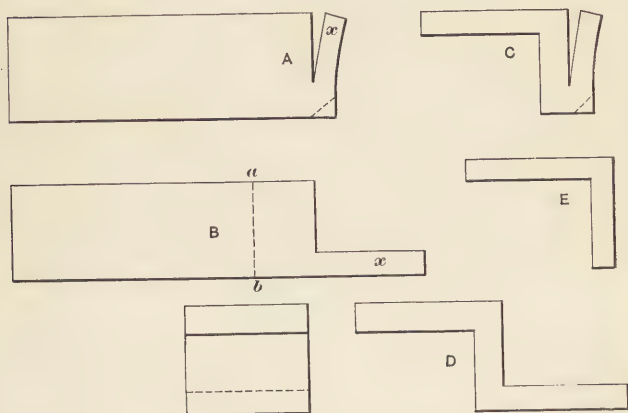

Fig. 44. Making a Double Angle.
**Making a Double Angle.**—Another troublesome job is to make a double angle from any flat stock over one half inch thick. To do this, take a square bar of the required size and cut as shown at *A*, Fig. 44, and cut off the corner at the dotted line. Then, with a set hammer drive down part *x*, getting the piece into the shape shown at *B*. Finally, cut off the right-hand end, along the dotted line *ab* and repeat the operation for the second angle, as indicated at *C*, thus getting a good, solid forging, like that shown at *D*, where the end view appears at the left and the side view at the right. Even if making a single angle, as at *E*, it is better to make it in this same way if above half an